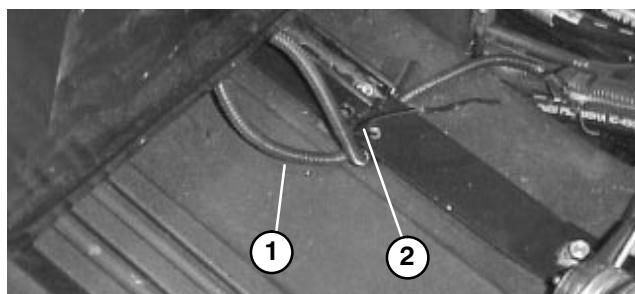

Figure 6
5. On deluxe seat only, route unused seat switch connector back under seat strap and secure both wires to rear most hole in seat strap (Fig. 6) with a cable tie (cable tie supplied with seat kit).